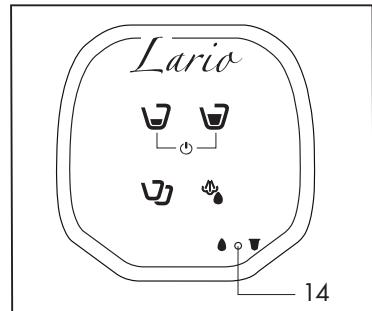

Fig. 4
The light (14) (VAP and 4D Model) on the control panel indicates that there is no water in the tank (**Fig.4**); fill the tank (8) as instructed above.